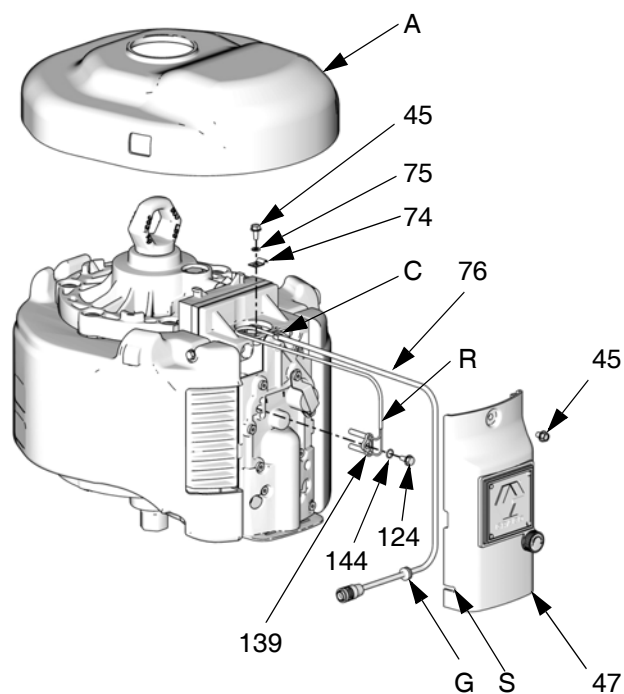

**FIG. 16. Replace the Linear Sensor**
4. Hold the adapter (33) with a wrench to keep it from turning, and unscrew the lift ring (21). See FIG. 16.